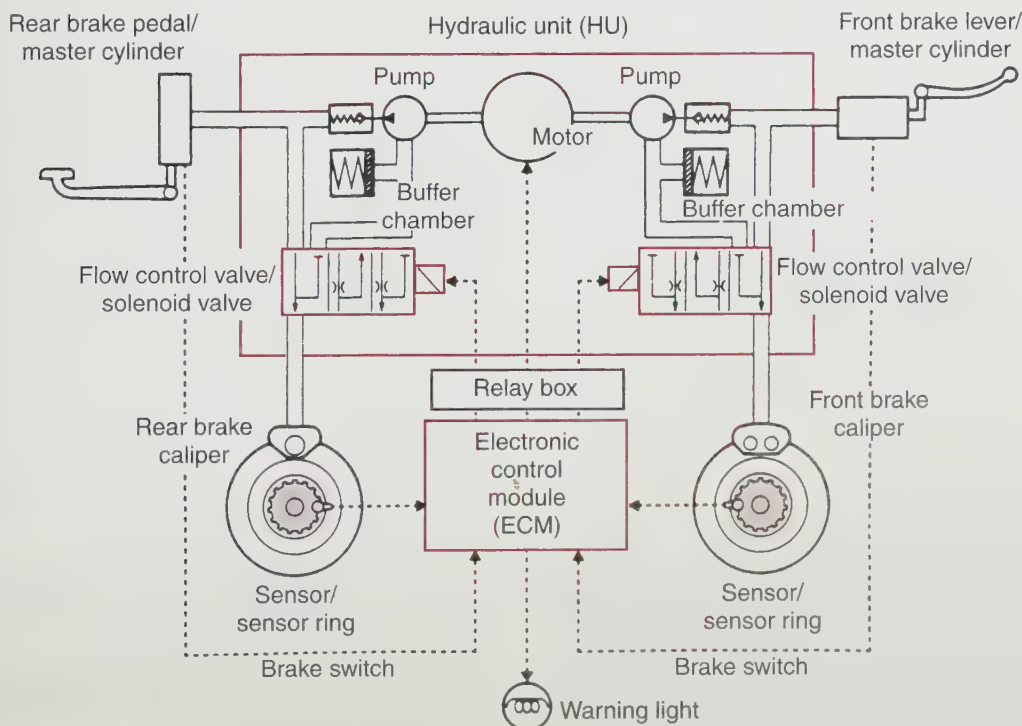

Figure 15-38. Main components of ABS hydraulic unit. (Yamaha Motor Corporation U.S.A.)
inside the tail cowl. The ECM is usually housed in a rubber cover for protection against water. As shown in **Figure 15-38**, the ECM receives signals from the front and rear wheel speed sensors and monitors the circuit signals. Microprocessors in the ECM process the ABS control logic. ECM operation is monitored and controlled by the CPU. Based on these results, control signals are supplied to the hydraulic unit, the fail safe relay, and the ABS warning light.
The **hydraulic unit (HU)** is a component that controls the brake system hydraulic pressure, based on instructions from the ECM, **Figure 15-38**. It is installed on the right side of the battery box.